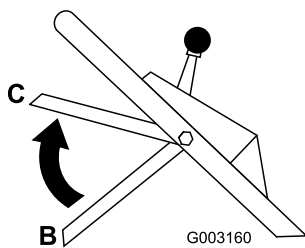

Figure 19
3. Bring the control bar up into the middle position about 5 inches (12.7 cm) below the handle cross bar (Position C in Figure 19).
4. Release the control bar (Position B in Figure 19).